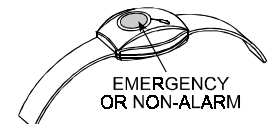

Figure 26. MCT-211
**F. MCT-211\*** (Fig. 26) Water-proof, wrist-worn PowerCode transmitter. Can be enrolled to perform emergency or non-alarm functions.